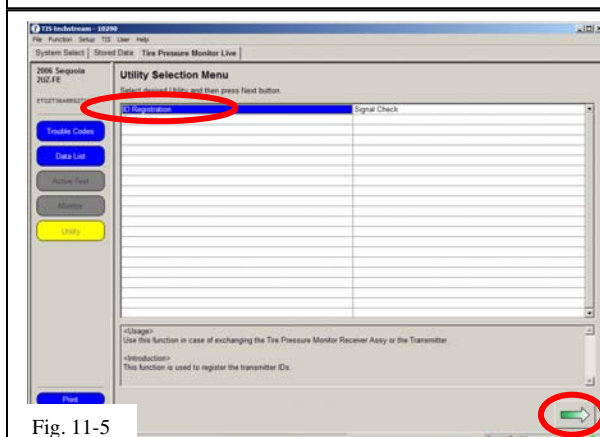

Fig. 11-5
- (h) Select “**ID Registration**” then click the green arrow located at the bottom right corner. (Fig. 11-5)